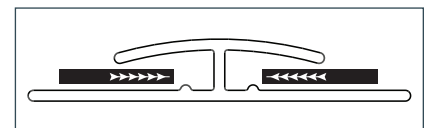

FIGURE 9
3. Insert a division bar on the first panel up to expansion control guide and continue installing panels. The free edge of the molding or division bar may be tacked in place if preferred before installing next panel. (Figure 9)